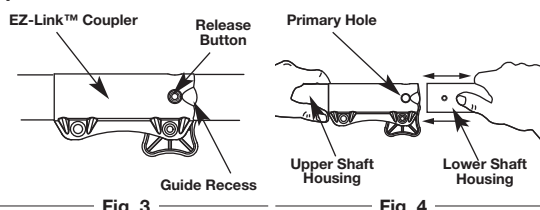

Fig. 3
2. Press and hold the release button (Fig. 3).
**NOTE:** Aligning the release button with the guide recess will help installation (Fig. 3).